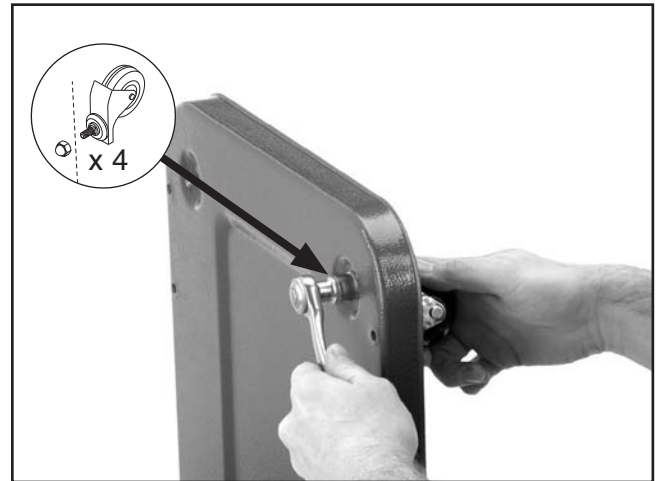

Figure 6. Caster installed onto the base.
1. Install the casters on to the base with (4) $\frac{5}{16}$ "-18 acorn nuts, as shown in **Figure 6**. The swivel casters can be mounted in the front or rear position, depending on your preference.